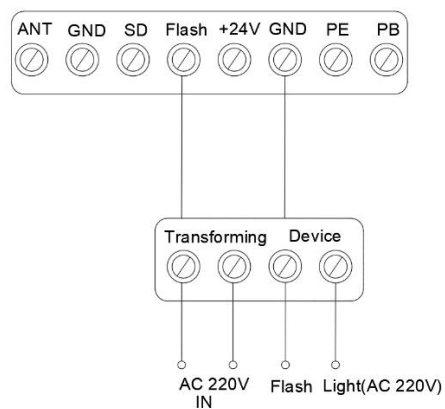
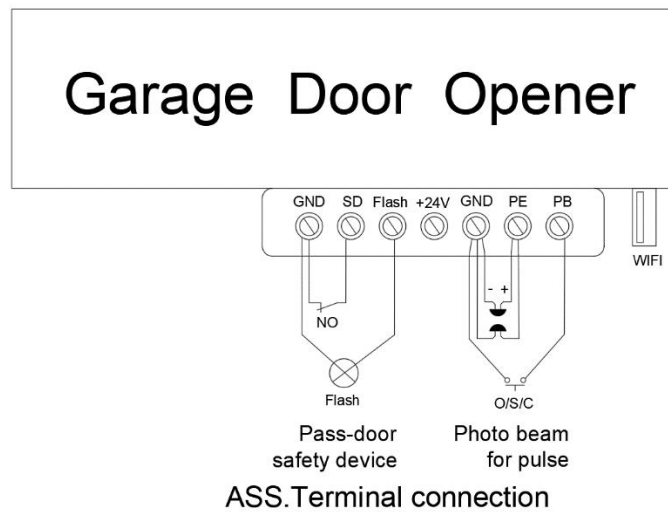

Figure 24
Figure 25
2. Flash light function. (Fig. 24, Fig. 25)
3. Pass door (SD) protection (Fig. 24, Fig. 25)
4. External power supply (BAT) and antenna (ANT), WIFI port.(Fig.25)